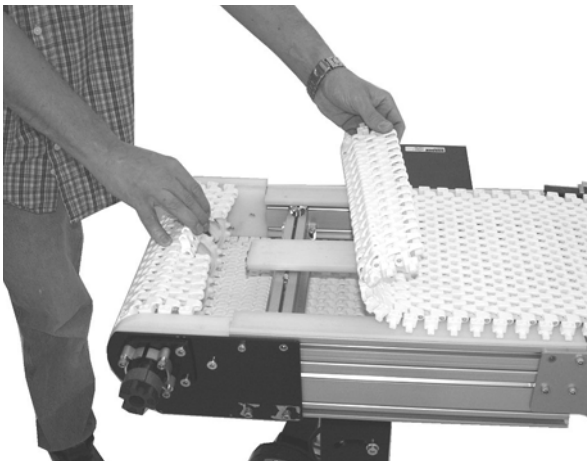

Figure 14
5. Bring the ends of the belt together (**Figure 14**).